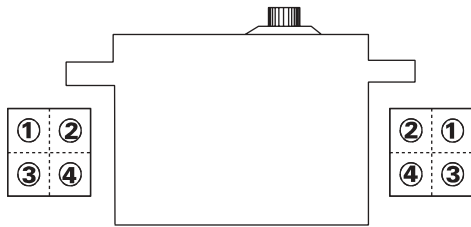

Figure 7B
Step 17. Use the tables in Figure 7B and 7C (on the previous page) to determine how the servo mounting posts (24) should be attached to the servo (*not included*).